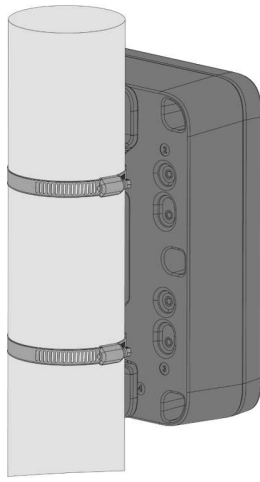

Figure 16: Fixing the enclosure on the pole
3. After fixing the mounts on the enclosure, place the WisBlock Unify Enclosure onto the pole by using two (2) steel strips (60-85 mm), as shown in **Figure 16**.